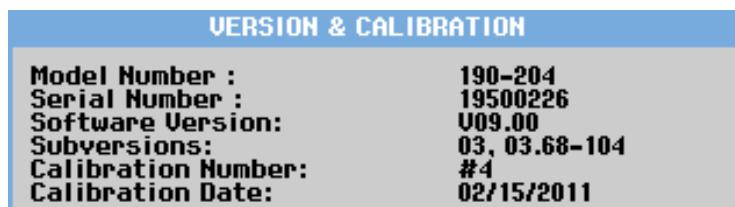

Figure 5-1. Version and Calibration Data (example)
1. Press **USER**, then press **F3** to see the Version & Calibration data (see Figure 5.1).